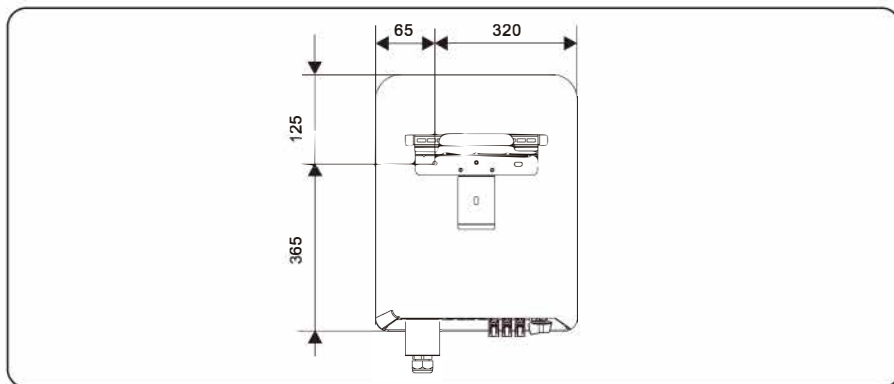

Figure 4.10 Positions determining (unit: mm)
Step 2 Determine the positions for drilling holes (as shown in Figure 4.10) using the rear panel.